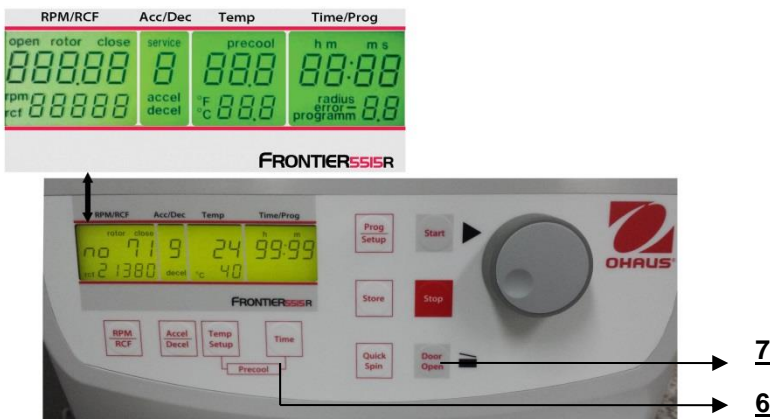

Figure. 30
While the centrifuge is turned off, press simultaneously the keys "**Time**"(6) and "**Door Open**" (7) and turn on the main switch of the centrifuge. Now release both keys and as a result a display test is executed for approx. 5 seconds. All indicators will appear at the same time (See figure 30).